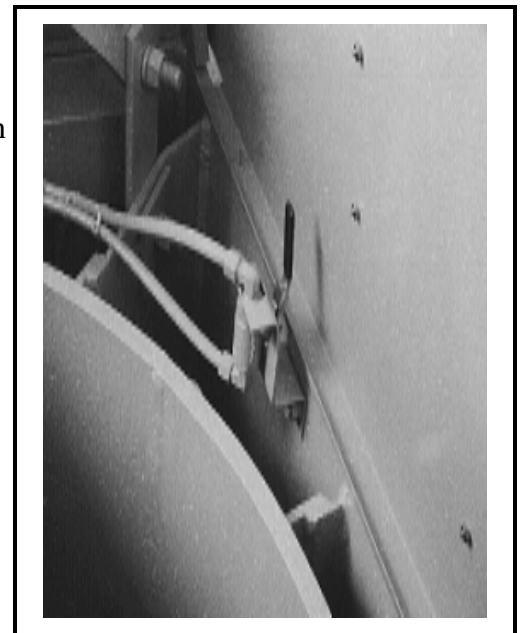

FIGURE 1 (MSSMD423AE)
4. Identify the *bell-up throttling valve* and the *diaphragm inflating valve* on your machine (see FIGURES 1 and 2). When the normally open bell-up throttling valve is throttled toward closed, this diverts some of the air required to raise the cylinder (away from the main bell air cylinder). When the normally closed diaphragm inflating valve is throttled toward open, and if neither press pressure nor suction is being called for, this valve admits compressed air into the main bell.